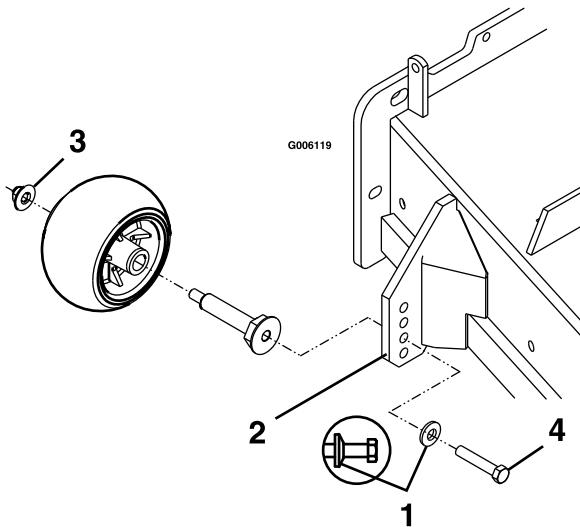

Figure 10
8. Torque the 3/8–24 x 2 Gr 8 hex capscrew to 50–55 ft-lb (68–75 N-m) (Figure 10).
9. If the 3/8 nyloc nut has been removed, re-install and torque to 30–35 ft-lb (41–47 N-m) (Figure 10).